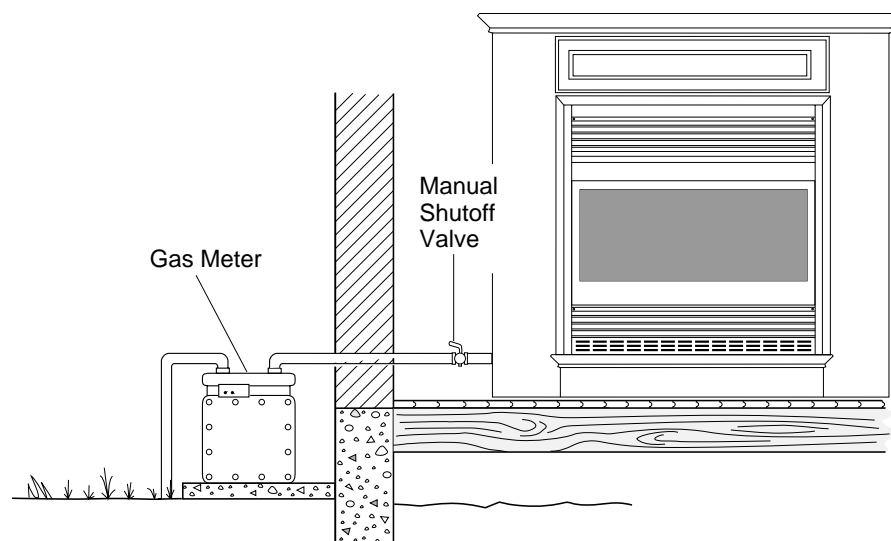

Figure 26 - Checking Gas Joints
3. Check all joints from gas meter to manual shutoff valve (see Figure 26). Apply mixture of liquid soap and water to gas joints. Bubbles forming show a leak.
4. Check all joints from manual shutoff valve to thermostat gas valve (see Figure 26). Apply mixture of liquid soap and water to gas joints. Bubbles forming show a leak.